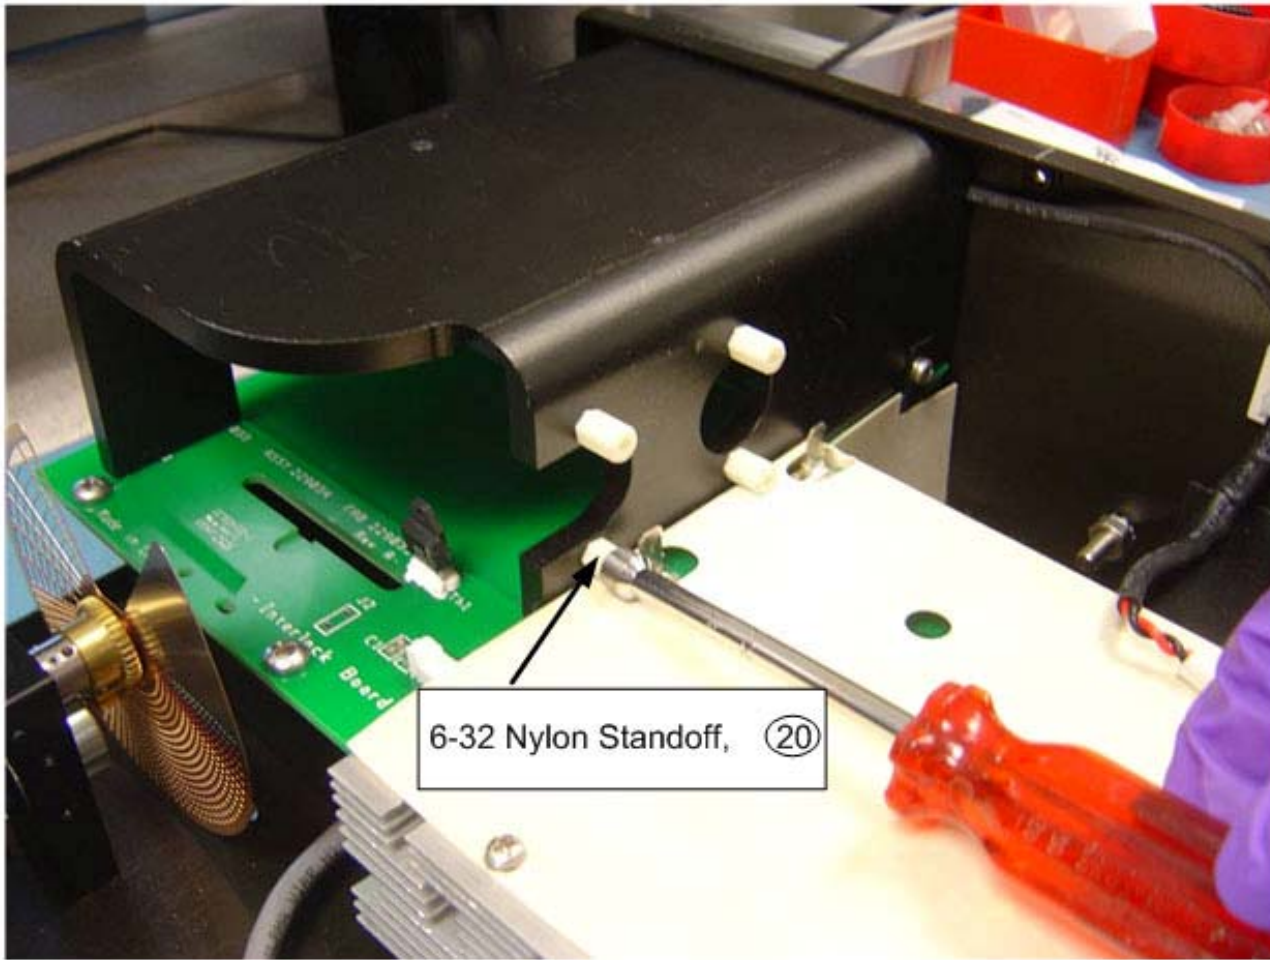

Figure 20
4. Remove the two lower 6-32 nylon standoffs used for the interface board – Fig. 20.